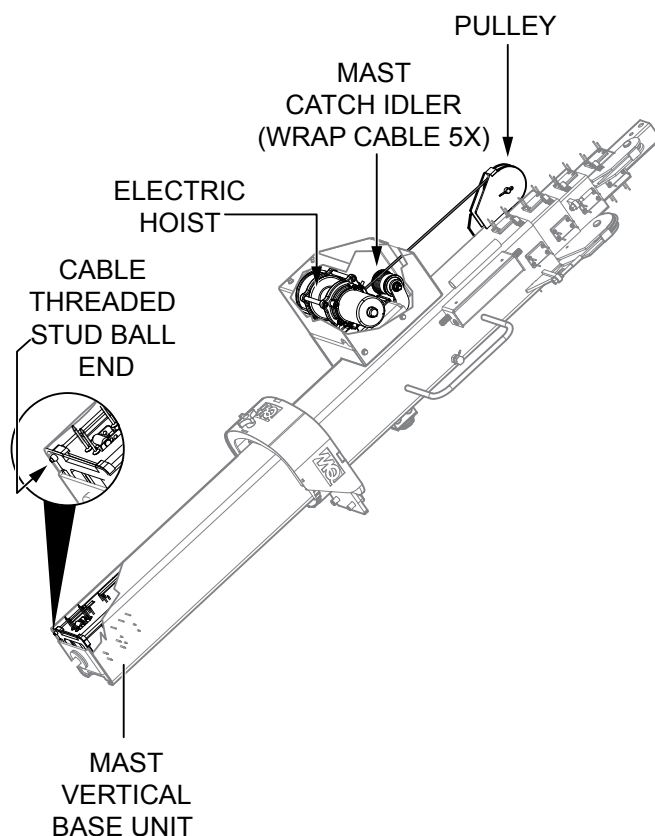

Figure 13. Mast Cable Installation
1. Insert the cable threaded stud end up through the outer-most internal mast section base as shown in Figure 13.
2. Continue to pull the cable up through the mast until the ball end (Figure 13) is seated in the mast base hole.
4. Route the cable from the pulley to the mast catcher idler as shown in Figure 13. Wrap the cable around the idler a minimum of five times counterclockwise.
5. Route the last cable wrap through the slot (Figure 13) on the electric hoist drum.